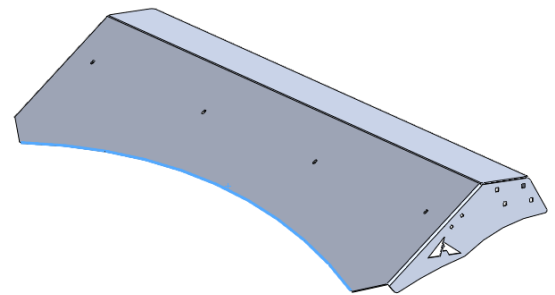

Figure 7: Rubber Trim Installation on Air Dam
- Install rubber trim along front edge of air dam (Figure 7).